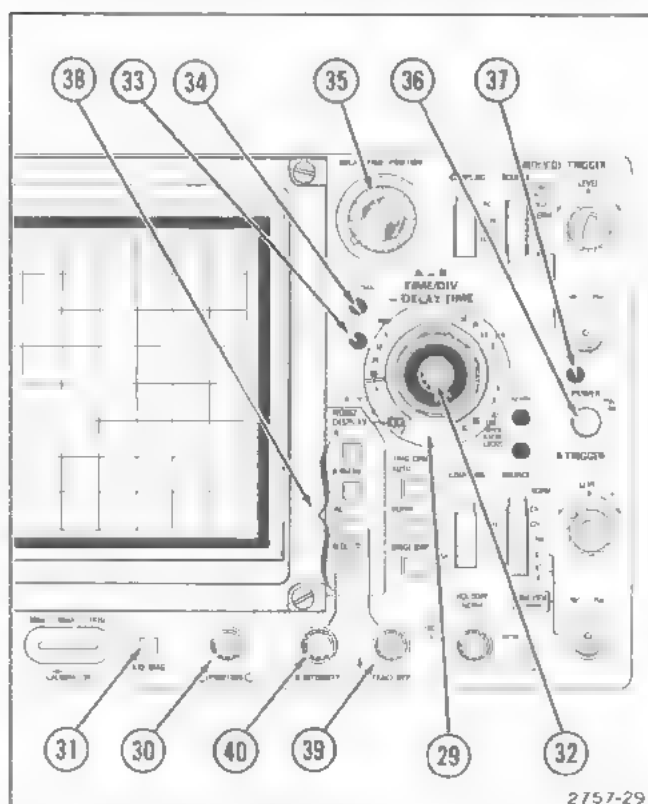

Figure 2-6. Horizontal and power connectors, controls, and indicators.
Refer to Figure 2-6 for location of items 29 through 40